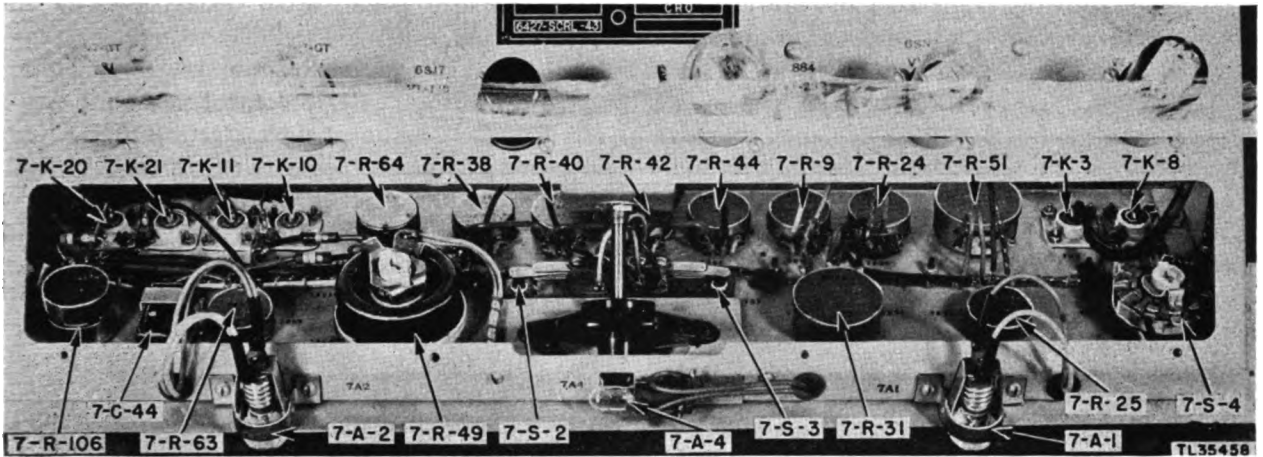

Figure 195. Operating controls, rear view.
*b.* INDICATOR CONTROL BC-1193-A. To permit access to the tube shelf and rear of operating controls, lift the operating shelf from the unit and place it aside. Loosen the two knurled knobs on the third panel of the unit, pull on these knobs, and allow the unit to lower. Rear view of operating controls is shown in figure 195. To permit access to the under side of the tube shelf, replace